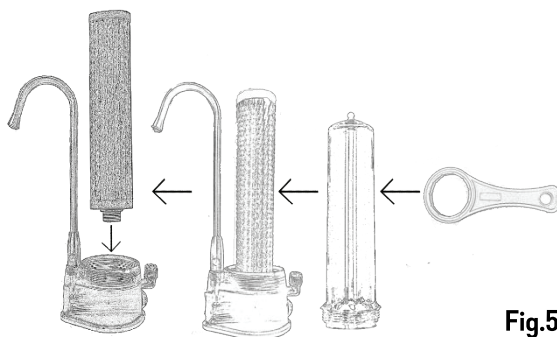

Fig.5
6. Screw the cartridge (Disruptor/Ceramic) back to the “Cavity”. **(Fig. 5)** Screw back the filter housing to the base member and tighten it to prevent water from leaking out of the housing.